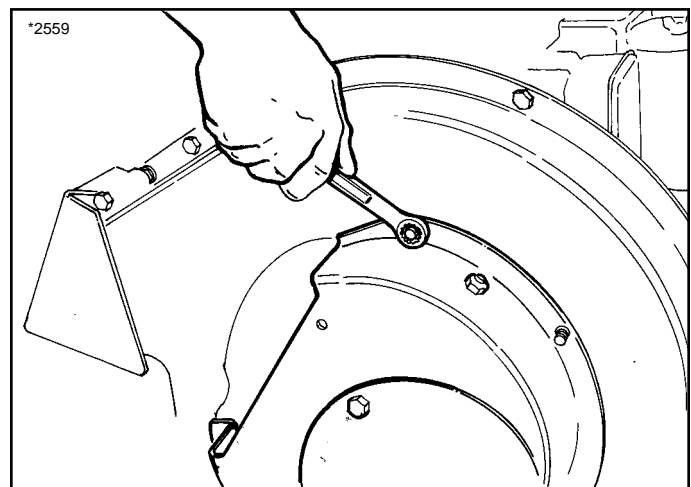

Figure 27. Removing Rotor Housing
3. Remove the rotor housing by unscrewing the 5/16–18 hex nuts that hold it to the fan housing. See Figure 27.